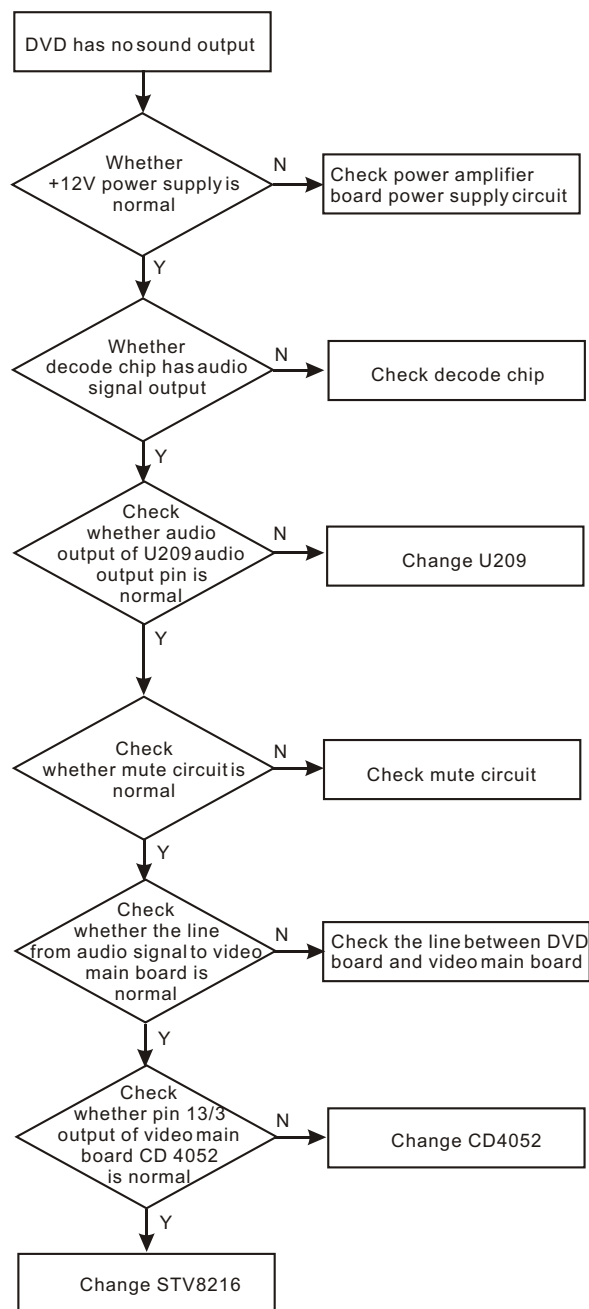

Figure 3.3.2.4 Troubleshooting flow chart for “DVD has no sound output”
5. Troubleshooting process for “DVD left channel has no sound” is shown in the figure 3.3.2.5: